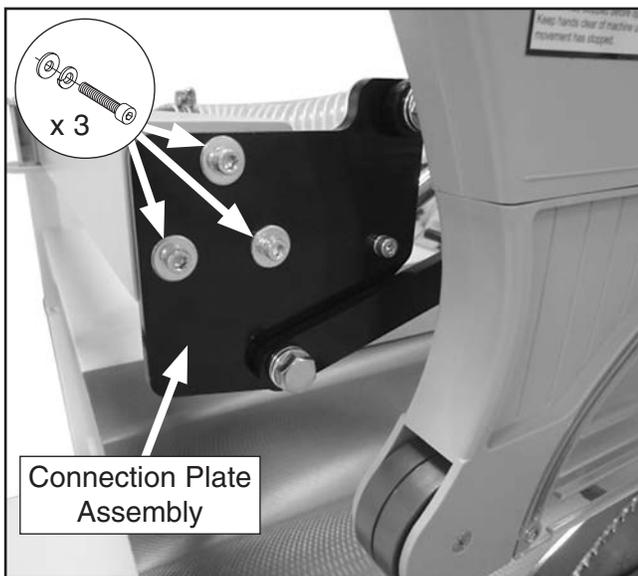

Figure 58. Connection plate assembly attached to upper support arm.
68. Attach connection plate assembly to end of upper support arm, using (3) M6-1 x 20 cap screws, (3) 6mm lock washers, and (3) 6mm flat washers (see **Figure 58**).